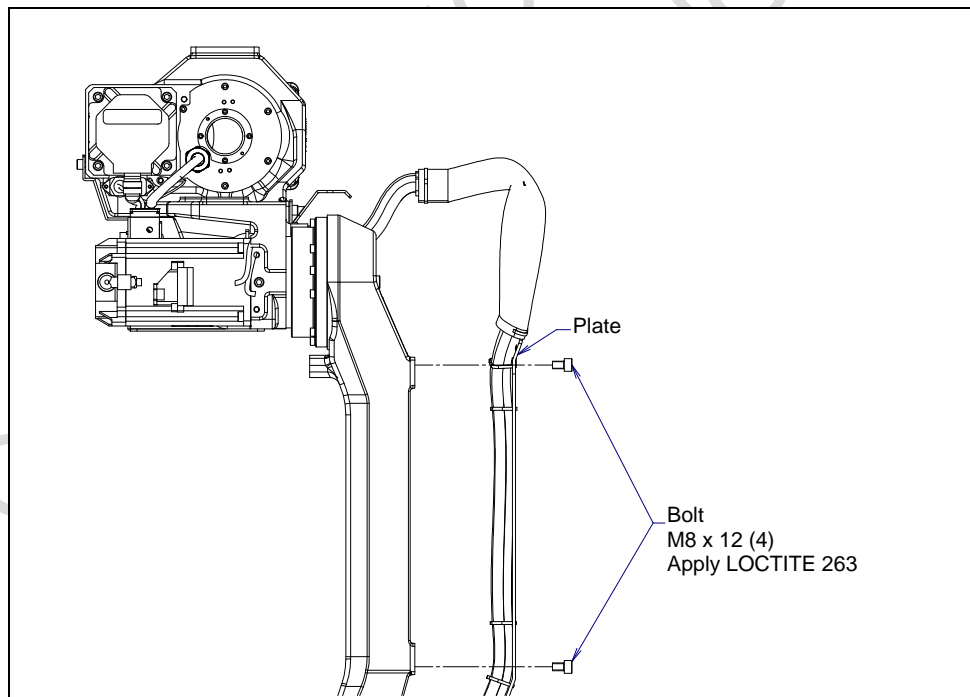

Fig. 8.4 (l) Replacing cable kit (J2 arm part)
- 29 Replace the cable kit by new one .Do 24 to 28 in reversed sequence. Pay attention cable don't twist in the J1 base. (Refer to Fig. 8.4 (k).)